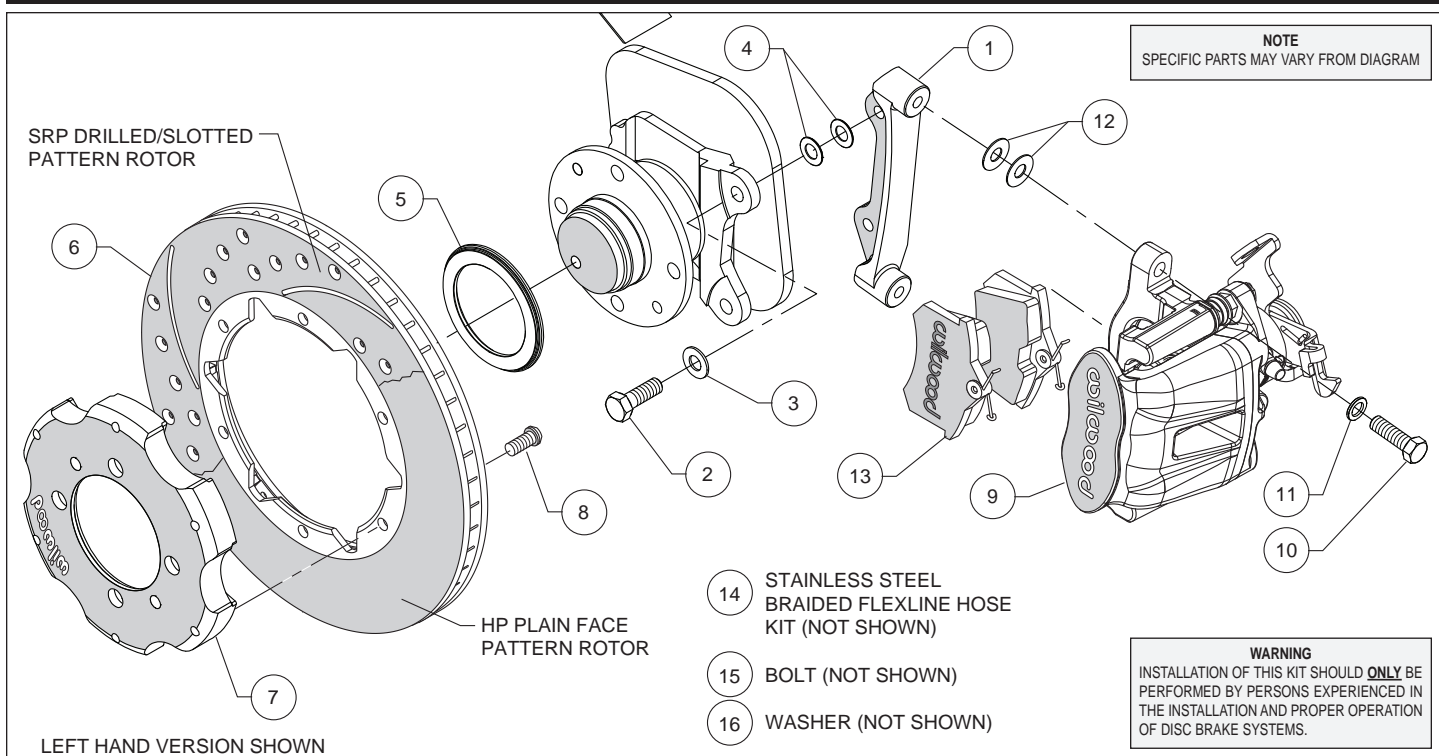

Figure 2. Typical Installation Configuration
- The caliper mount bracket (1) should initially be installed with clean, dry threads on the mounting bolts. Orient the bracket as shown in Figure 2, and Photo 2. Install using mounting bolts (2) and washers (3). Initially place two .030" thick shims (4) on each bolt between the bracket and upright, Figure 2. Temporarily tighten the mounting bolts. **NOTE: The bracket must fit squarely against the mount bosses on the upright.** Inspect for interference from casting irregularities, machining ridges, burrs, etc. Later, after the caliper alignment has been checked, the mount bolts will be secured using red *Loctite*[®] 271.
- Orient the rotor (6) and the hat (7) as shown in Figure 2 and Photo 3. Attach rotor to hat using bolts (8). Using an alternating sequence, apply red *Loctite*[®] 271 to the threads, and torque to 25 ft-lb.
- Install the brake pads (13) into the caliper (9) from the bottom with the friction material facing the rotor until the "v" spring clip snaps into place against the anvil, as shown in Figure 2 and Photo 6. They should install easily without interference.
- Mount the caliper (9) onto the mounting bracket (1) using bolts (10) and washers (11), as shown in Figure 2 and Photo 7. Initially place two .035" thick shims (12) on each bolt between the caliper and the bracket. Temporarily tighten the mounting bolts and view the rotor (6) from the end of the caliper. The rotor should be centered in the caliper, Photo 8. If not, adjust by adding or subtracting .030" shims (4) between the caliper mounting bracket and the upright to center the caliper on the rotor. Always use the same amount of shims on each of the two mounting bolts. Once the caliper alignment and pad centering are correct, remove the bracket mounting bolts (2) one at a time, apply red *Loctite*[®] 271 to bolt threads, and torque to 30 ft-lb.